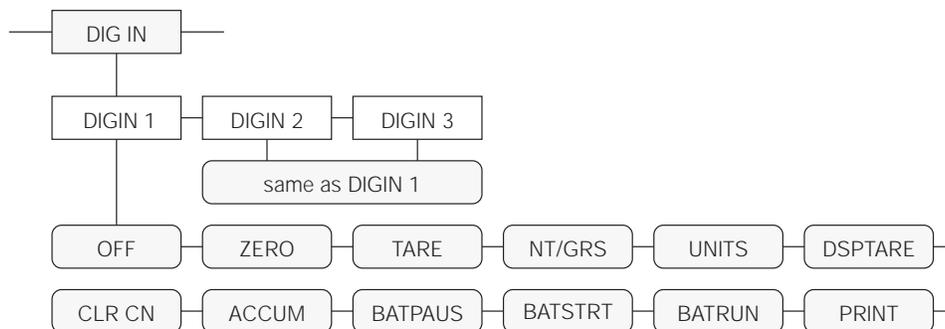

Figure 9-4. Digital Input Menu
- For indicators using Release 3.0 software, go to the DIG IN menu, move to DIGIN 1 and select BATSTRT as digital input 1. Then move to DIGIN 2 and select BATRUN as digital input 2. See Figure 9-4 on page 69.